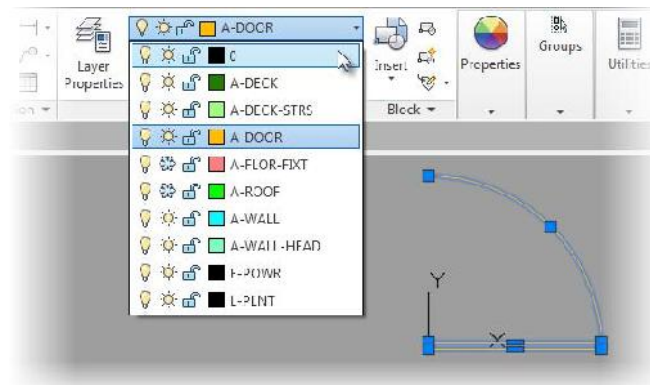

FIGURE 7.7: Changing the door's layer inside the Block Editor
11. Select the door and swing inside the Block Editor, and change its layer to layer 0 by using the Layer drop-down on the Home ➤ Layers panel (see Figure 7.7).